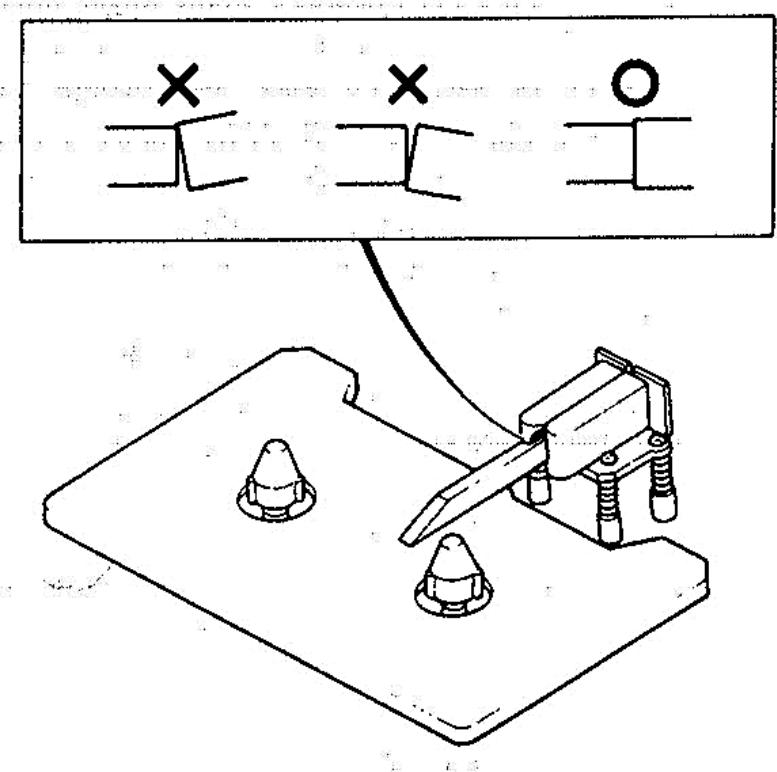

Fig. 2-4
- Apply jig B to the head as shown in Fig. 2-4 to check head tilt. Adjustment is made by turning screws E and F by the same amount (within a 1/8 turn) until the head is perpendicular to the jig.
- Fig. 2-4の様に治具Bをヘッドに当てて、チルトを確認しヘッドが治具に対して垂直になる様に、ネジE、Fを同量(1/8回転以下)回し調整する。
9. Place jig B as shown in Fig. 2-4 to check the head tilt. Adjustment is made by giving the same amount of turn to screws A and B (within a 1/4 turn) until jig B is perpendicular to the head.
- 9) Fig. 2-4の様に治具Bをヘッドに当てて、チルトを確認しヘッドが治具Bに対して垂直になる様にネジA, Bを同量(1/4回転以下)回し調整する。